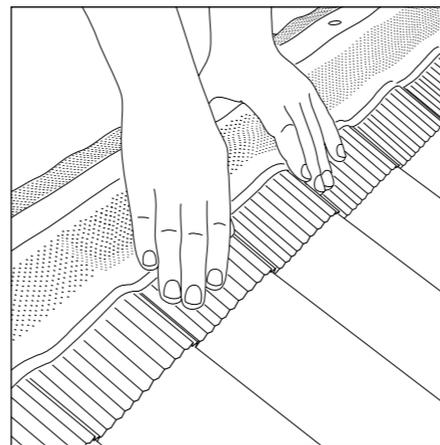

Fig 6
- 6 Firmly press corrugations onto tiles on both sides along length of the ridge. With profiled tiles, it is best to adhere mastic to the top of profile either side of tile pan first, to ensure an even spread of corrugated strip across roof (Fig. 6).